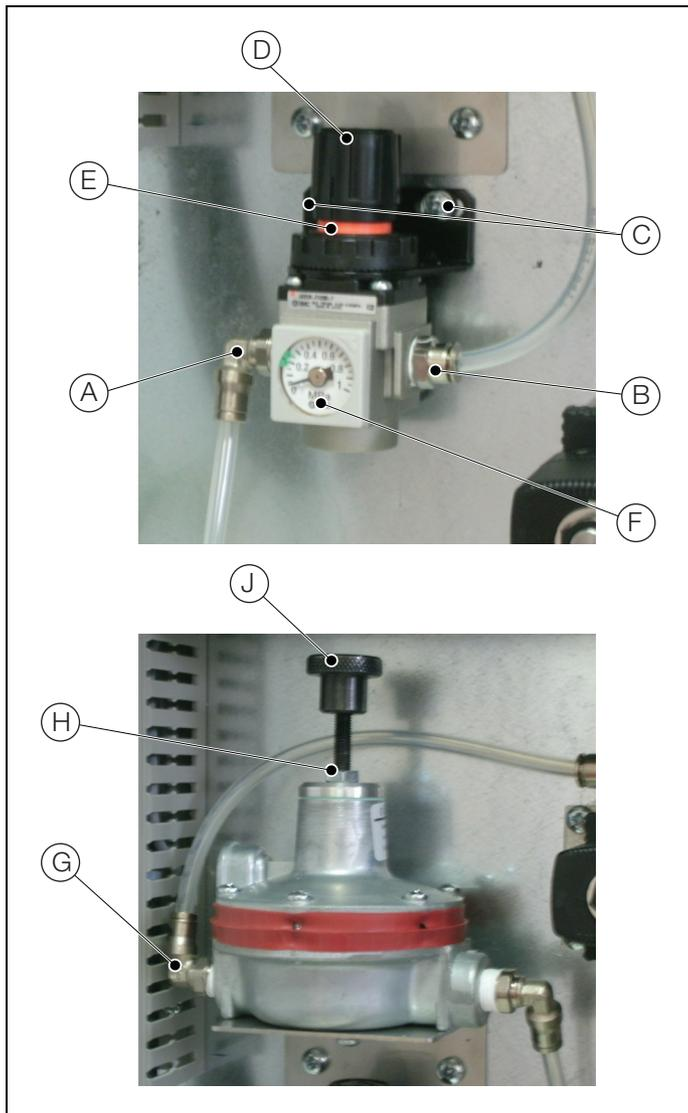

Fig. 5.8 Modulated air regulator replacement
4. Referring to Fig. 5.8:
- a. Pull the inlet pipe from inlet fitting (A).
- b. Pull the outlet pipe from outlet fitting (B).
- c. Remove 2 x M5 screws (C) securing the modulated air regulator to the enclosure the back plate and remove the modulated air regulator.
- d. Remove inlet and outlet fittings (A) and (B). Clean the PTFE tape from the fittings' threads.
- e. Apply PTFE tape to the fittings' threads and fit inlet and outlet fittings (A) and (B) to the new modulated air regulator.
- f. Position the new modulated air regulator on the enclosure back plate and secure with 2 x M5 screws (C).
- g. Push the outlet pipe onto outlet fitting (B).
- h. Push the inlet pipe onto inlet fitting (A).
- i. Pull adjuster (D) up to unlock it (red band (E) exposed) and turn fully counter-clockwise.